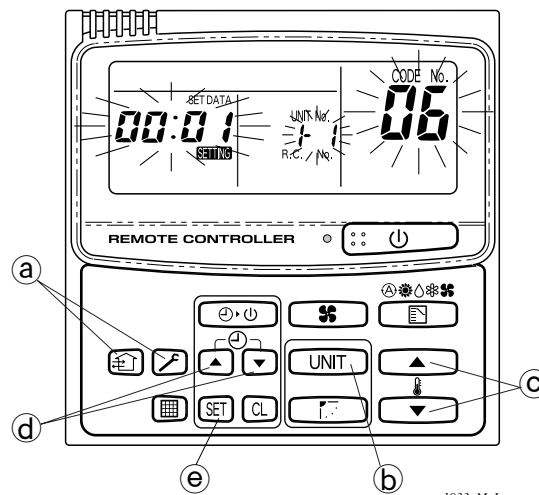

Fig. IV-10
### (G) Change the shift temperature in heating mode (Ref. Fig. IV-10)